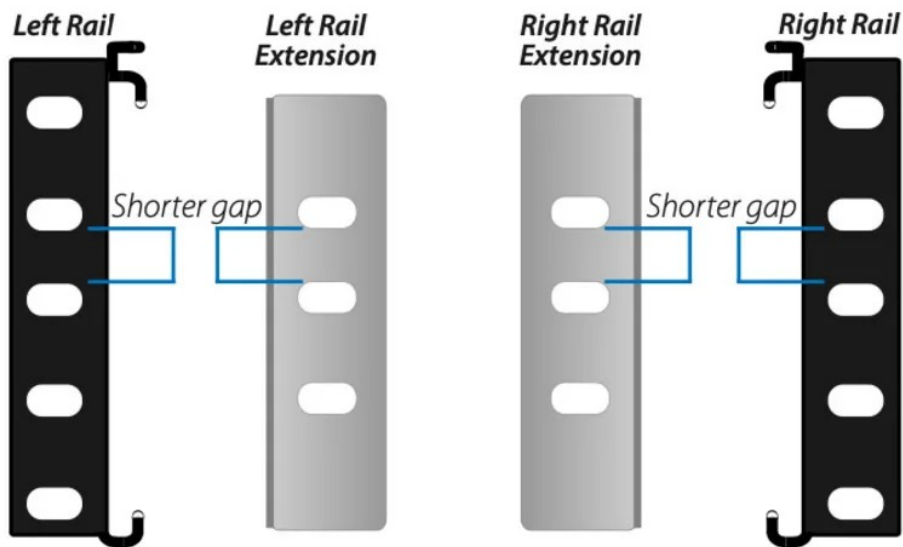

Figure 2.1e
5. Remove the rail arm extensions from the accessories box and match them to the rails. Use Figure 2.1e as a guide for proper matching of rails and the extension pieces.